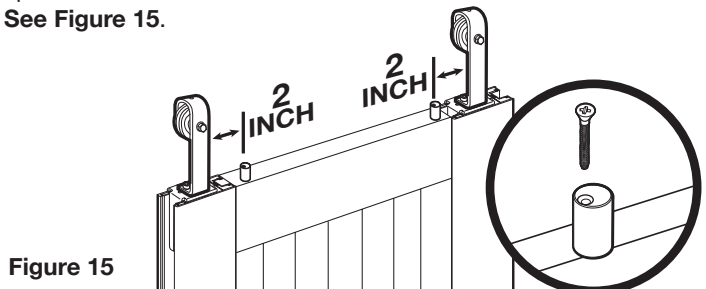

Figure 15
Once the Roller brackets have been secured and the finishing strips in place, it is important to install the Safety spacers (W). These spacers help to protect the door from being bumped off of the track. With the door laying flat in a safe and secure position, place one of the two spacers approximately 2" to the inside of one of the roller brackets. Place slightly off center towards the front of the door. Using a drill, secure the spacer with the screw provided. Repeat steps to install the second spacer inside the other roller bracket. See Figure 15.